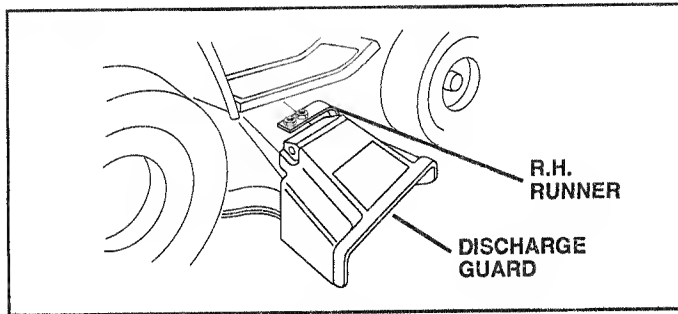

FIG. 12
- Use the runner on the right hand side of mower as a guide. The blade cuts approximately an inch outside the runner (See Fig. 12).